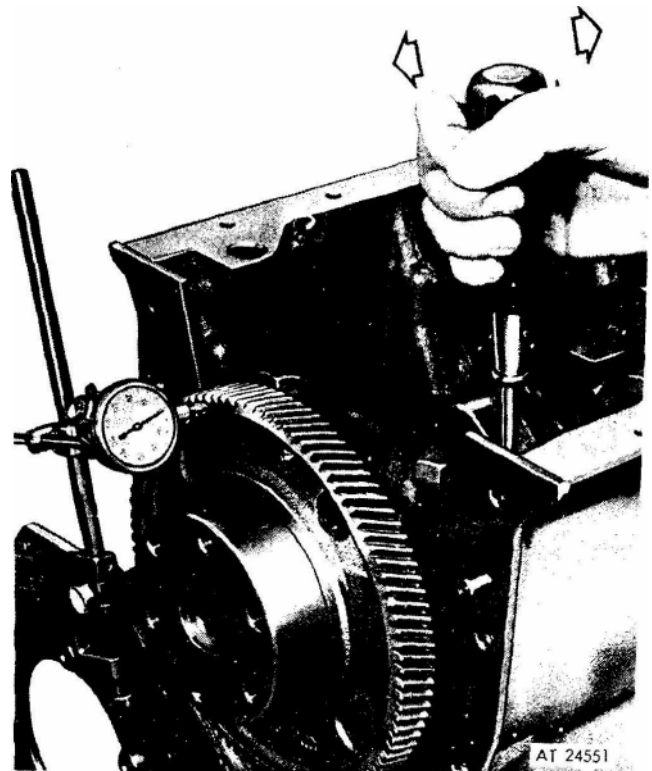

Figure 8. Checking crankshaft end play.
Excessive end thrust from use of an improper flywheel or improper clutch adjustment can be contributory factors to scoring of the thrust washers. If these washers have been scored, or otherwise damaged, or if the crankshaft end thrust is excessive, they should be replaced. Crankshaft end thrust, as measured between the crankshaft flange and NEW thrust washers, (fig. 8) should be within limits of .004" to .011". The maximum allowable end thrust with used washers is .018". The crankshaft thrust surfaces should be inspected and, if scored, may require grinding (sec. 1.3 under crankshaft grinding). If after "dressing up" or grinding the crankshaft, new standard size thrust washers do not hold the end thrust within the
4. Check the crankshaft end play by moving the crankshaft toward the gage as shown in figure 8. Keep a constant pressure on the tool and set the dial indicator to zero. Then, remove and insert the screw driver on the other side of the bearing cap. Force the screw driver in the opposite direction and note the amount of end play on the dial. The clearance should be .004" to .011" with new parts or a maximum of .018" with used parts. Insufficient clearance can be the result of a misaligned rear main bearing or a burr or dirt on the inner face of one or more of the thrust washers. If the rear bearing is misaligned it may be loosened and retightened as described in Step 3.